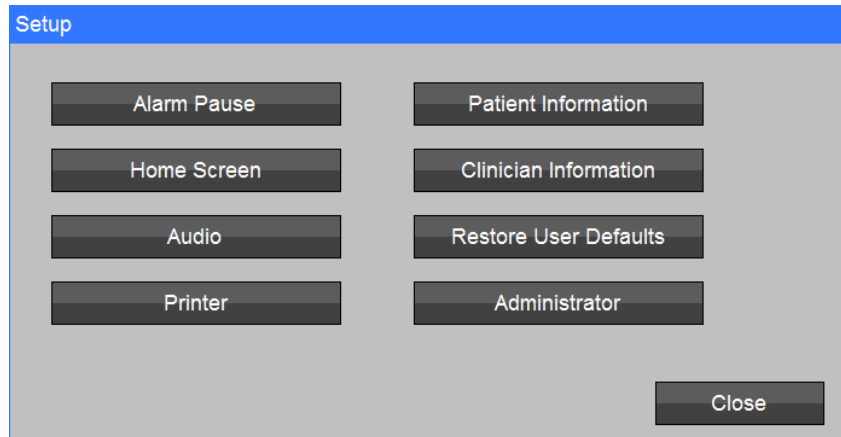

Figure 37: Setup Menu Screen
To enter the monitor’s Setup Menu, press the **Setup** touch area located on the main screen (refer to Figure 37).
- 1) Press Patient Information key (refer to Figure 37) to enter Patient Information.